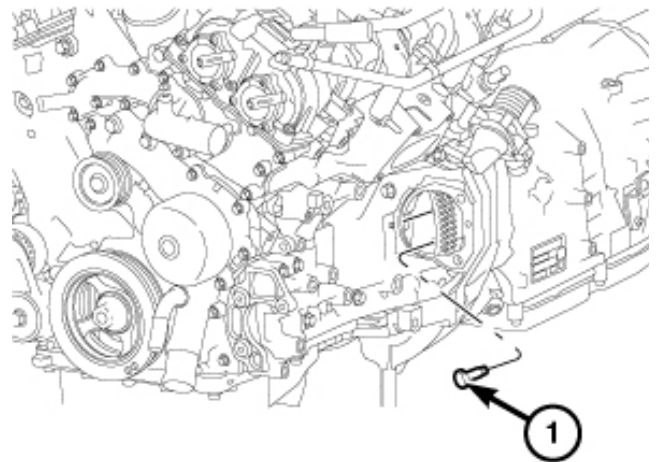

Figure 32 – Torque Converter Bolts
71. Rotate crankshaft clockwise and remove six torque converter bolts (1) through the starter pocket (Figure 32).